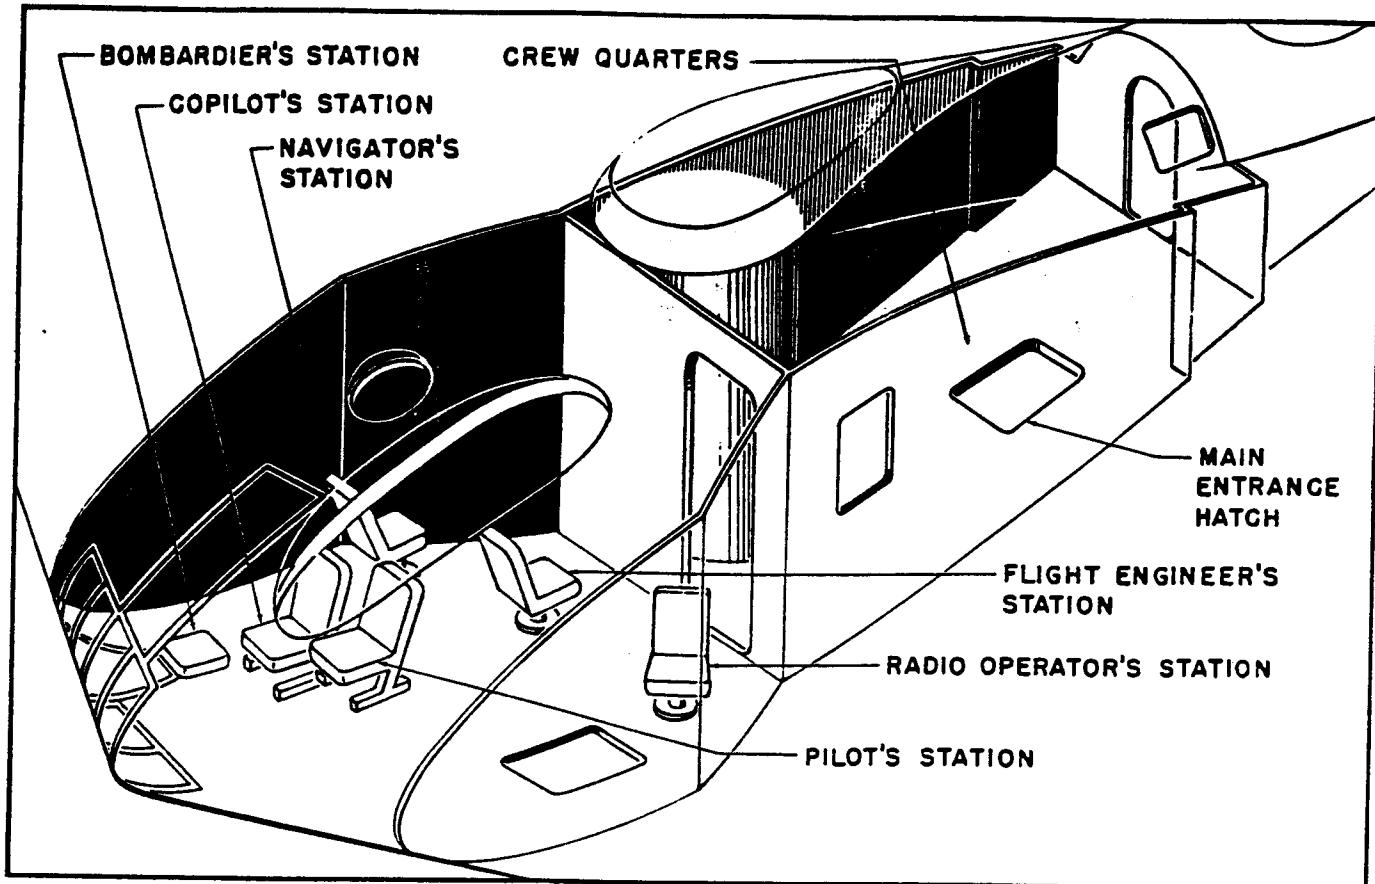

Figure 2. Crew Stations
1. GENERAL.- The Northrop XB-35 heavy bombardment airplane, serial number LA42-13603, is a flying wing of the pusher type, powered by four R-4360 turbosupercharged engines; each driving an eight-bladed, dual rotating, reversible pitch propeller. It has a wing span of 172 feet, an overall length of 52 feet, and an overall height of 20 feet. The weight empty is approximately 84,000 pounds and the maximum gross weight is approximately 140,000 pounds. This airplane has not been equipped with armament but dummy fairings have been installed to simulate gun turrets and sighting stations. Eight bomb bays are incorporated in the wings. The crew nacelle is located at the center of the wing and provisions have been made to accommodate a crew of six; pilot, copilot, flight engineer, navigator, radio operator, and bombardier. (See figure 2.)